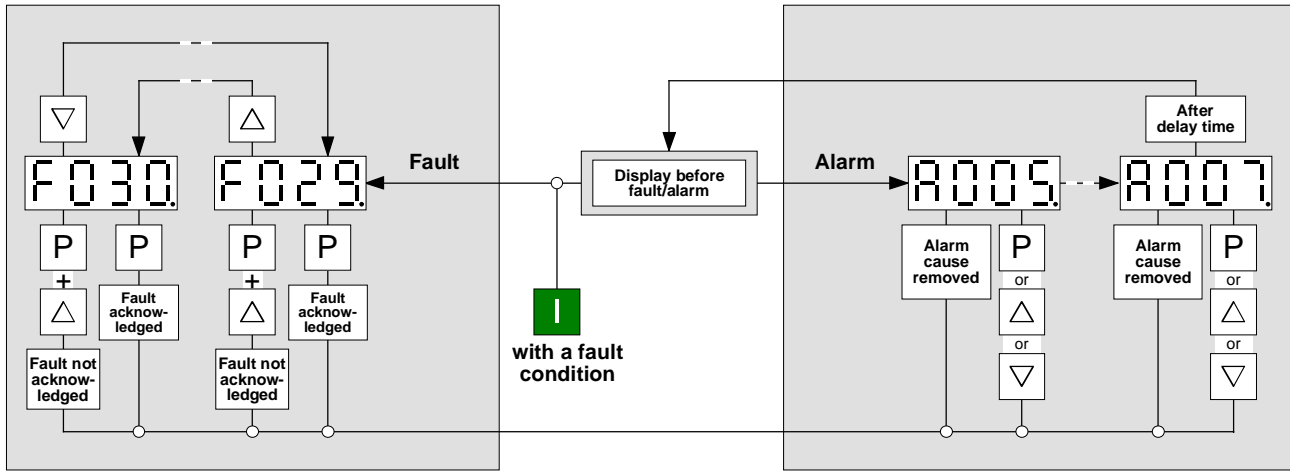

Figure 6.3 Operator control structure of the PMU for alarms and faults
1) Changeover between parameter number, index and parameter value levels (see Figure 6.2), whereby the command only becomes effective when the key is released. 2) Resetting the current fault message (see Figure 6.3) 3) In conjunction with the arrow keys <raise> and <lower>, additional functions are possible (refer to Figs. 6.2 and 6.3), whereby <P> is pressed first followed by the other key. This command becomes effective once the other key has been pressed.
When a fault or alarm is generated, it is displayed immediately on the PMU as well as on the optional OP1S (see Section 6.3, Figure 6.3). An alarm disappears automatically from the display when the problem has been corrected. A fault message must be reset by pressing the P key on the PMU or the reset key on the OP1S after the problem has been corrected, before it is possible to return to a normal operating state.